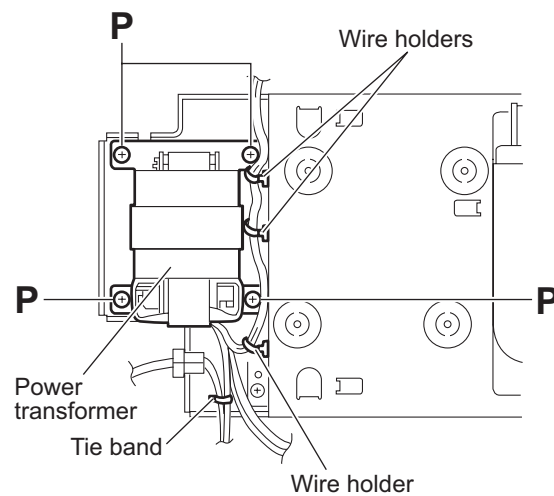

Fig.15
3.1.10 Removing the power transformer (See Fig.15)